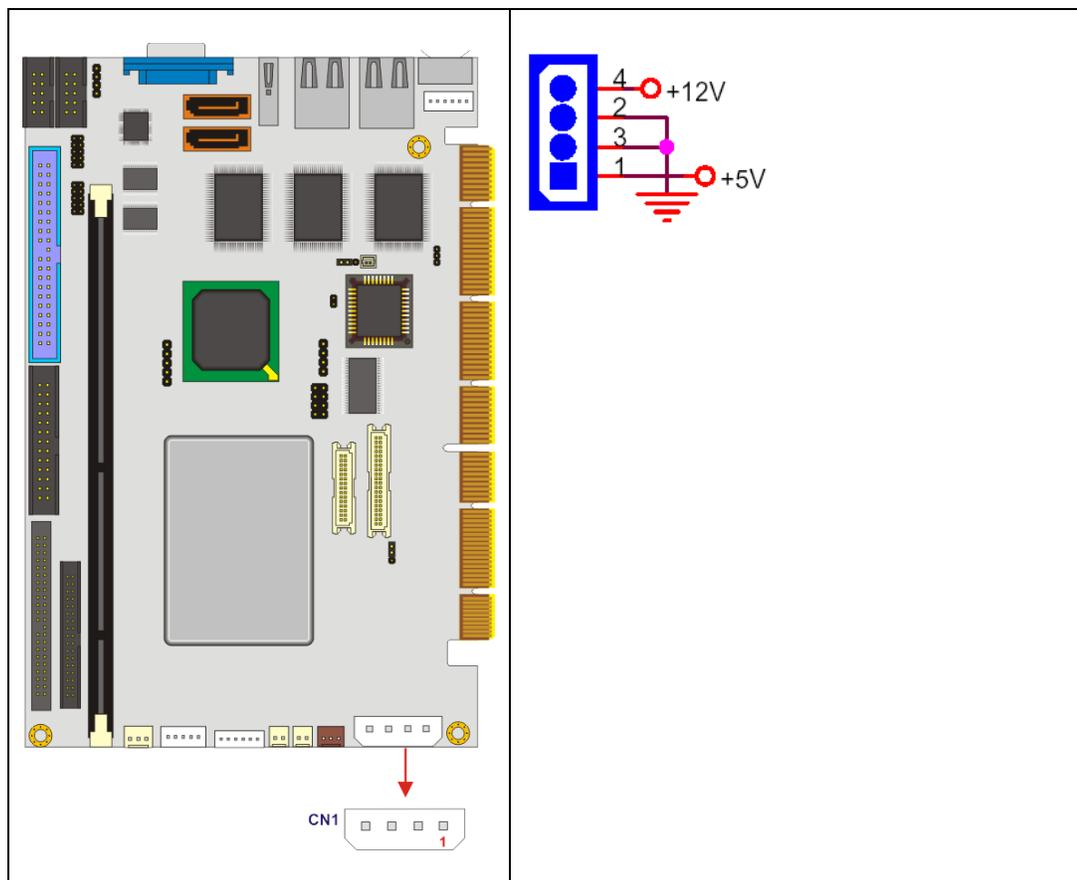

Figure 3-19: Power Connector Location
- CN Location:** See **Figure 3-19**